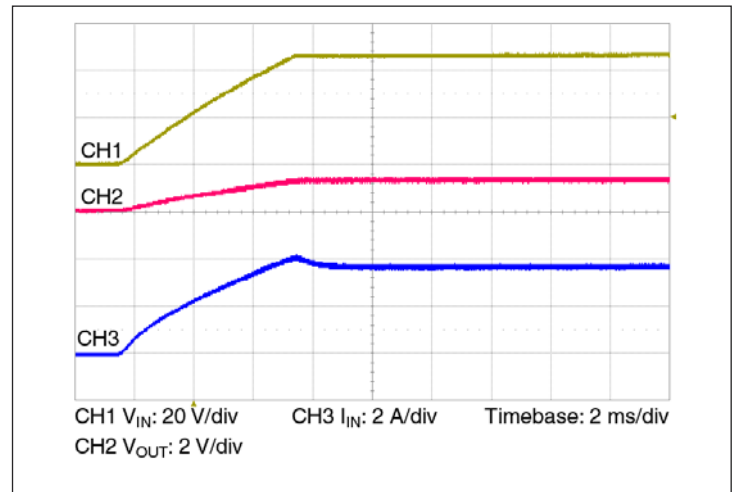

Figure 10 — Start up from application of V_{IN} ; VC pre-applied $C_{OUT} = 64400 \mu\text{F}$
- Normal operation (VC applied prior to V_{IN}): In this case the controller is active prior to ramping the input. When the input voltage is applied, the VTM module output voltage will track the input (See Figure 10). The inrush current is determined by the input voltage rate of rise and output capacitance. If the VC voltage is removed prior to the input reaching 26 V, the VTM may shut down.